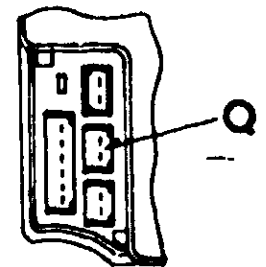

FIGURE 3
7. Clamp leads of Reed Switch B together with all other wires with clamp (G) inside machine arm column.
8. Dress all wires along casting with cord guard (F) behind main control box.
10. Insert 2 pin plug (White leads) into receptacle (Q) of main control box (Figure 3).